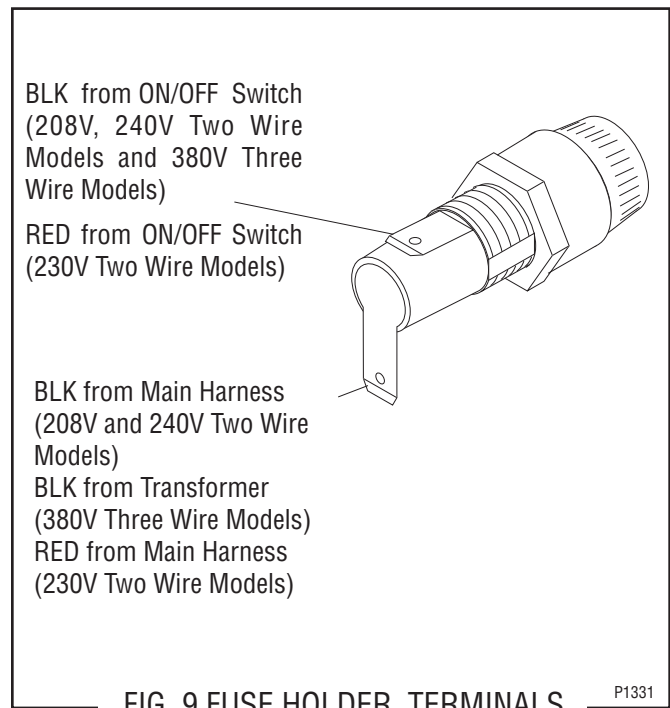

FIG. 9 FUSE HOLDER TERMINALS
5. Refer to Fig. 9 and reconnect the wires.